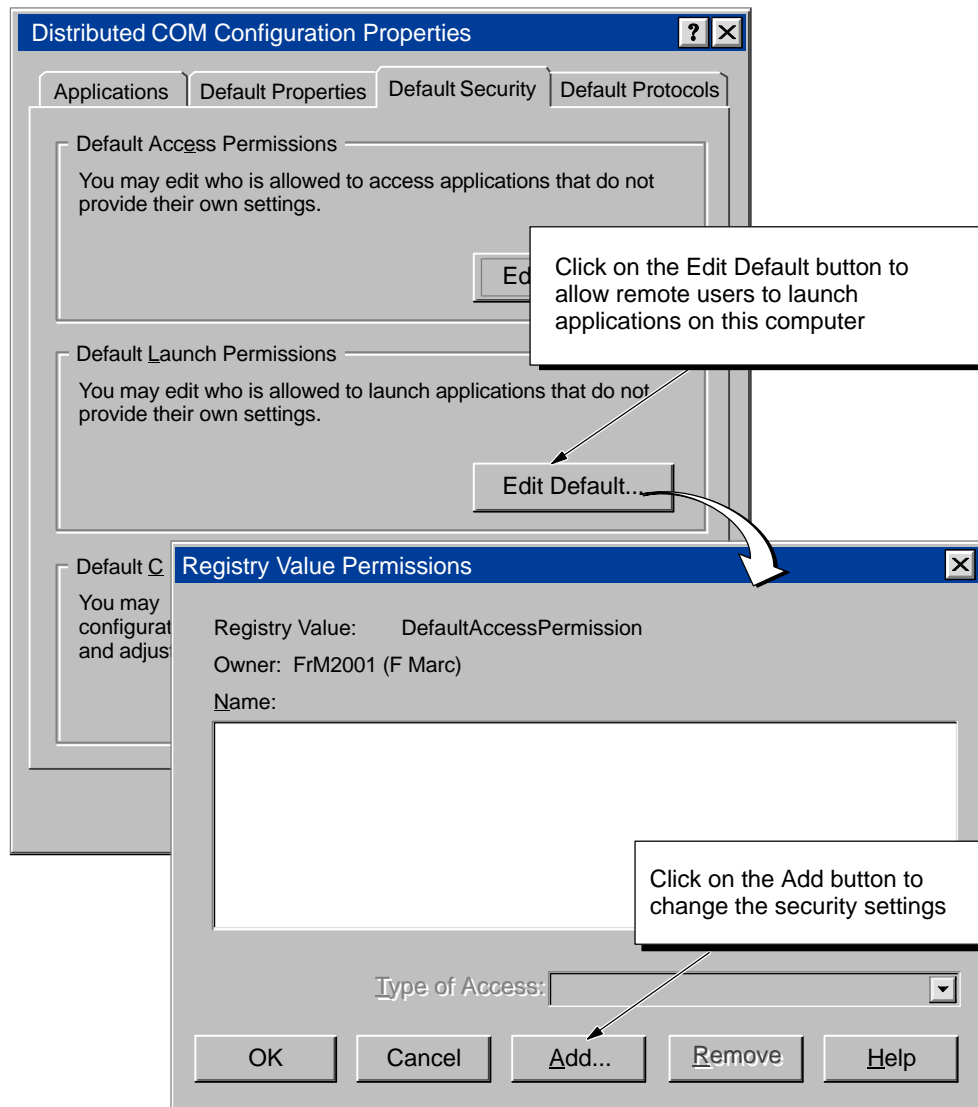

Figure D-16 Configuring the Default Launch Permissions for DCOM
1. Click on the Edit Default button for “Default Launch Permissions” to display the Registry Value Permissions dialog box. See Figure D-16.